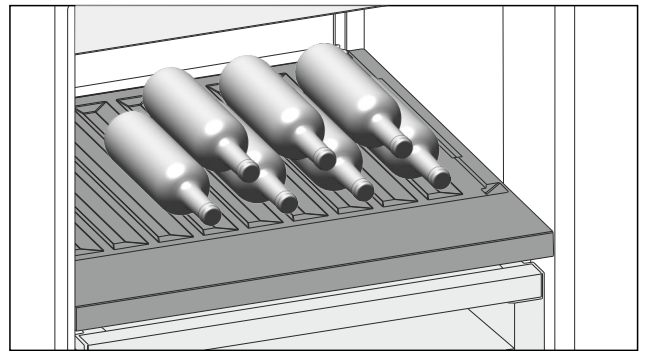

Fig. 92
- ▶ Place bottles in the back row with their bases against the back wall. (see Fig. 92)